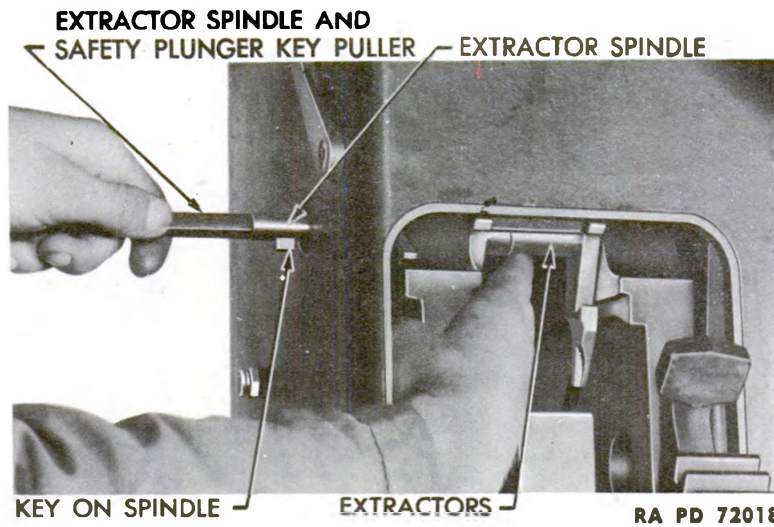

Figure 127 – Extractor Removal From Assembled Gun
(1) Through the larger of the two holes in the right side of the breech casing, screw the extractor spindle and safety plunger key puller into the threaded hole in the end of the extractor spindle.
(2) Reach through the bottom opening in the breech casing and support the extractors to keep them from falling out of the weapon after they have been released. Rotate the extractor spindle by means of the puller until the key on the spindle is mated with the keyway in the extractors. Withdraw the extractor spindle by means of the puller (fig. 127). Withdraw the extractors.